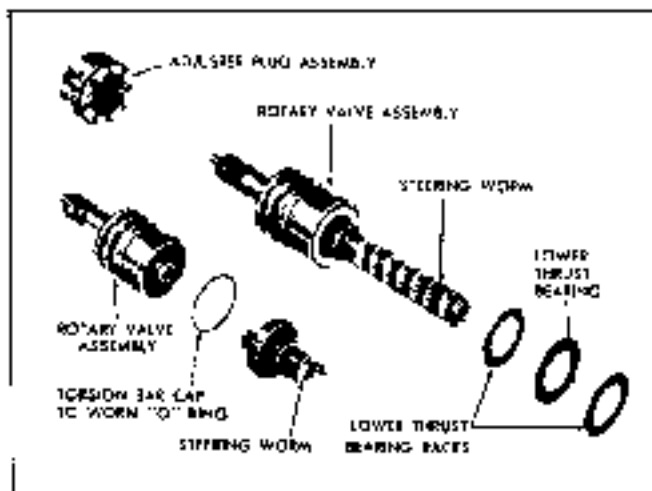

Fig. 9-52 Adjuster Plug and O Ring Removal
5. Remove adjuster plug from rotary valve and torsion bar by pulling straight out (Fig. 9-52).
cap to worm O-ring seal (in the Rotary Valve). See Fig. 9-52.